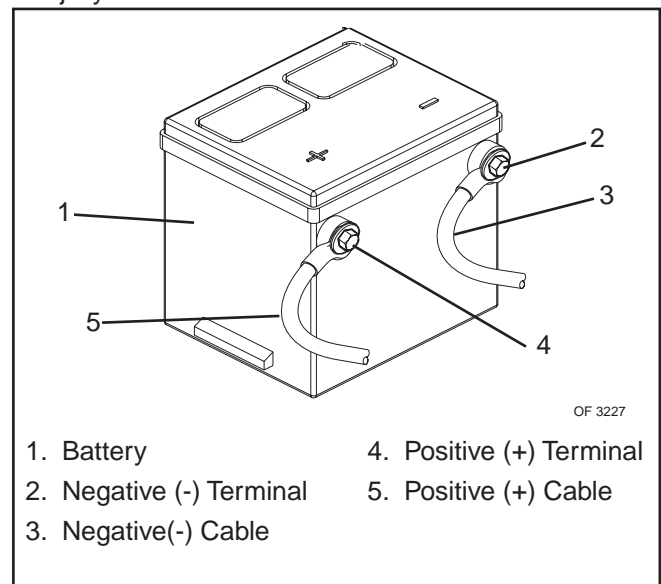

Figure 9
2. Disconnect negative (-) cable first, then positive (+) cable (Figure 9).